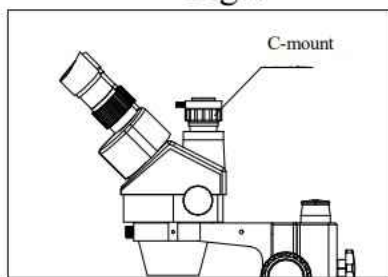

Fig.9
- Note: The range of the adjustment: 1~2mm in general.(Fig.9)